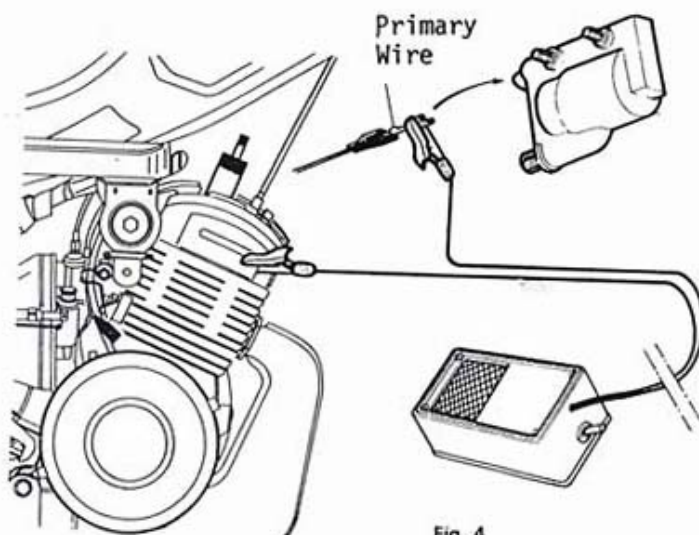

Fig. 4
4. Rotate the rotor clockwise one full revolution and as the blue stripe just begins to appear, the ohm meter should deflect to ∞ . Points just begin to open. If a timing lite/tester is used, the light will go "ON" (fig. 4). (See note, page 26.)